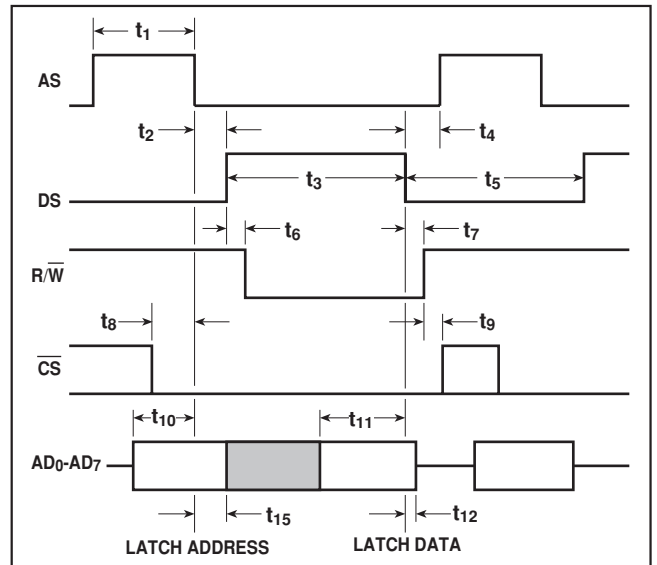

Fig. 5 Motorola bus timing definitions
**Motorola Mode (Fig. 5 and Table 2)**